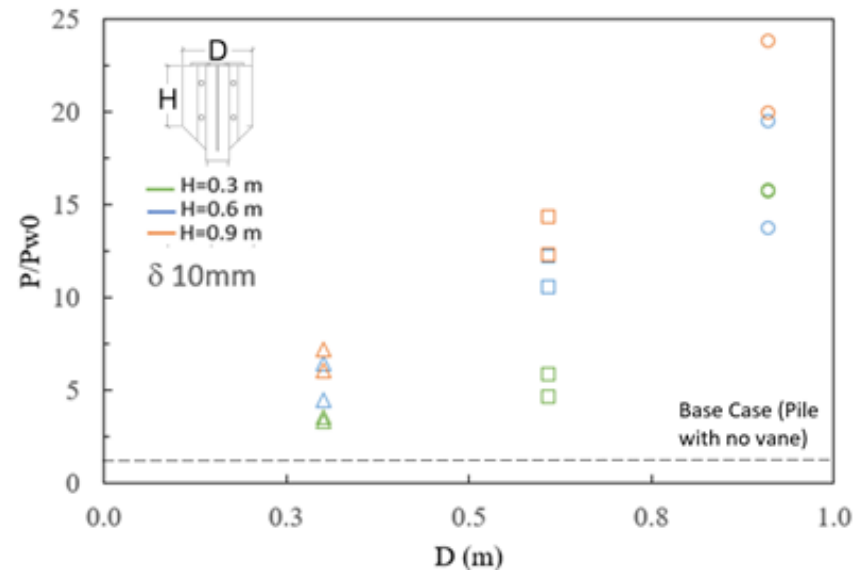

Figure 2. Normalized force required to displace HP with Collar Vane 10 mm. Force is normalized with base case (HP without CV)
- The Collar Vane (CV) significantly increases the lateral resistance of helical piles. Fig. 2 shows the lateral resistance mobilized with the collar normalized by the resistance mobilized with no collar vane.